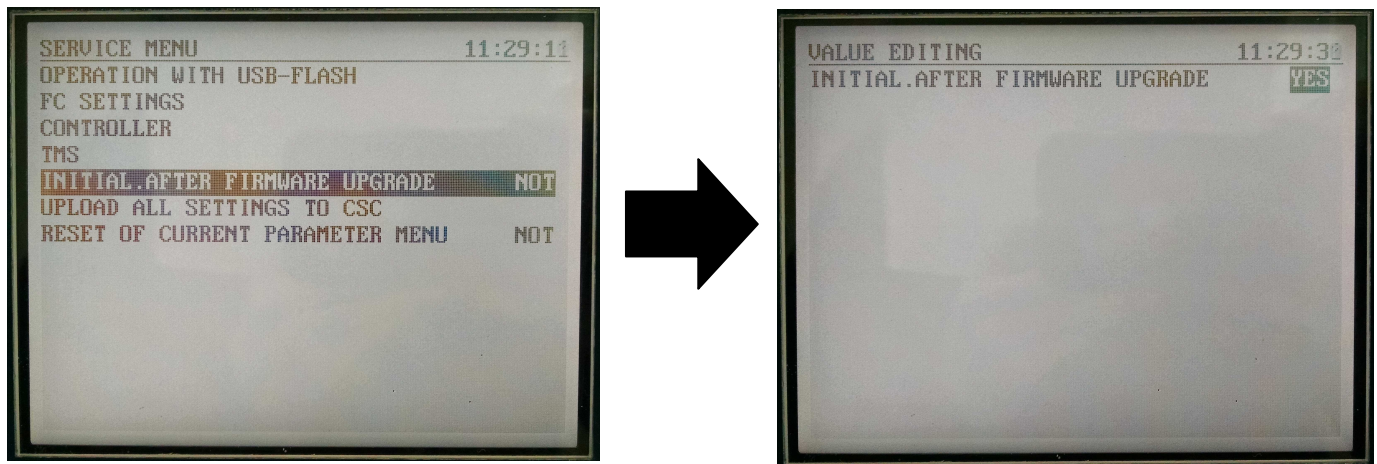

Figure 9
4.1.9 To perform the initialization after programming of the controller it is necessary to go to the menu «SERVICE MENU», to select the option «INITIAL. AFTER FIRMWARE UPGRADE» and to confirm the start of the initialization process (see Figure 9).